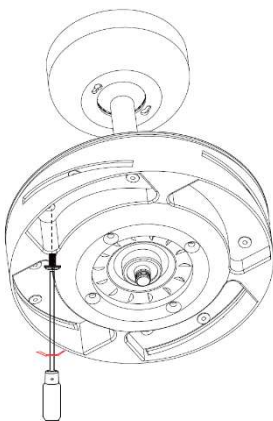

Fig. 5
2. Before installing the blades, remove the blade screws that are pre-installed on the fan motor assembly. Fig.5